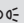

Fig. 36 Instrument console: light panel.
- Turn the switch to the required position >>> **Fig. 36**.